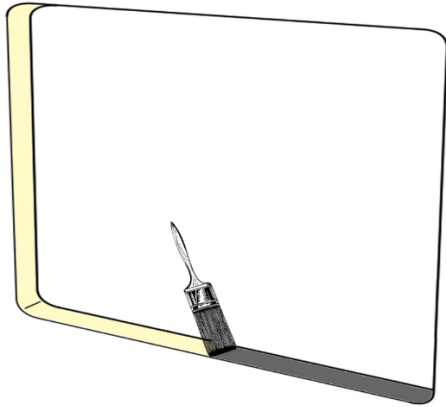

Fig 13
- Seal the exposed bear metal of the window aperture with a primer/metal oxide (to avoid rust) and make sure you use the correct protective clothing and goggles.(Fig 13)